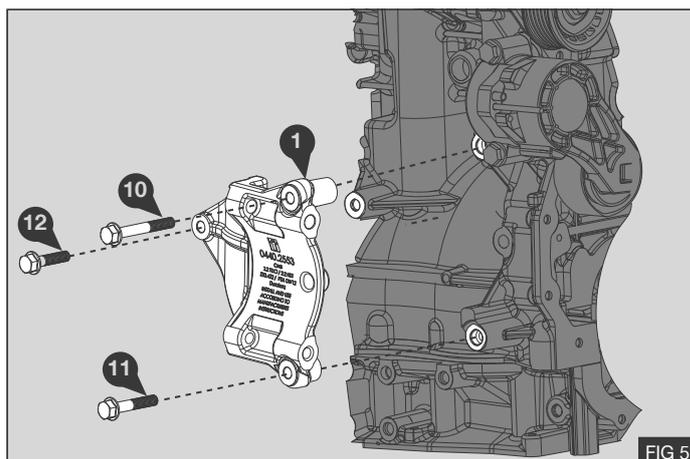

FIG 5
Note: Ensure the correct length bolt is installed in the correct location shown in Fig 5.
1. Install the supplied compressor mount bracket assembly ① in the position shown and secure using bolts M8 x 60 ⑩ M8 x 45 ⑪ M8 x 35 ⑫ - Fig 5
2. Torque bolts ⑩ ⑪ ⑫ to 25Nm / 18lb.ft. using a calibrated torque wrench.